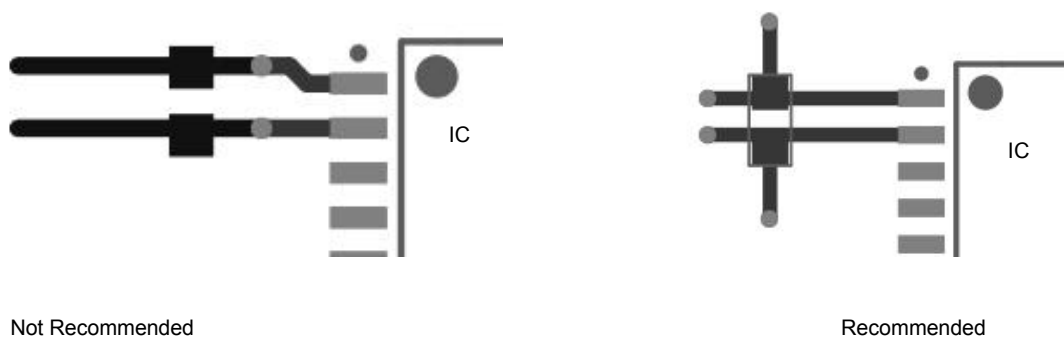

Figure 25-2
- When it is necessary to place vias in the power supply line and the ground wire, the position of the vias should be placed on the outside of the capacitor relative to the chip pins ,rather than between the capacitor and the chip, as shown in the figure25-2 below to reduce the number of vias effect of parasitic inductance.